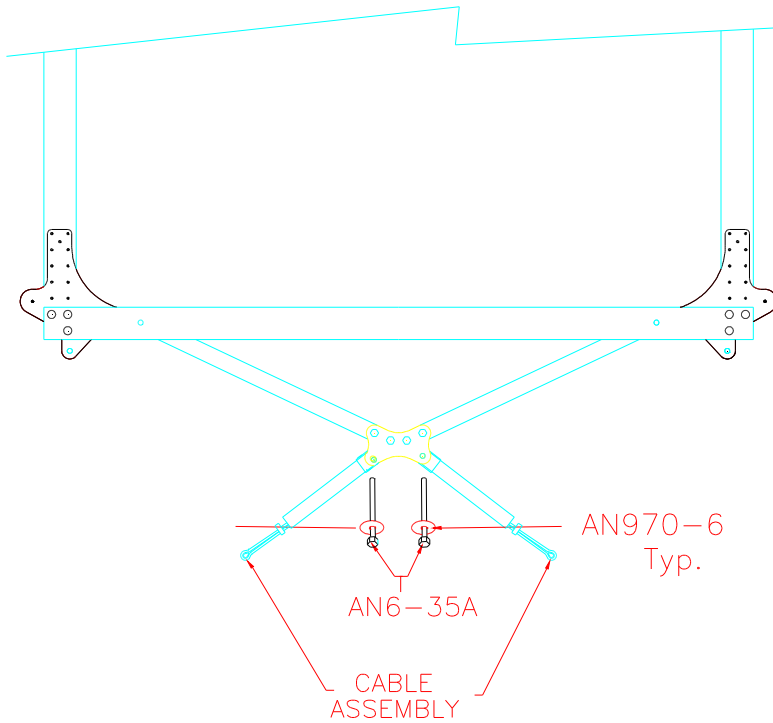

Figure 15.1.6
**NOTE:** Ensure the bolts go through the ends of the cable assembly. Figure 15.1.6.